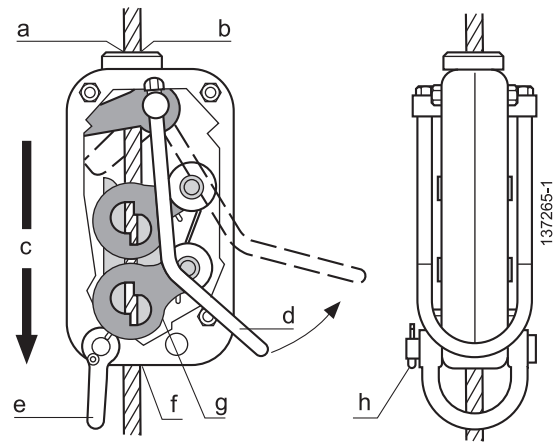

Fig. 1
The BLOCSTOP™ type BS fall arrest device (fig. 1) is basically formed by a system of self-clamping jaws (item g, fig. 1) mounted in a zinc-plated steel casing.
The unit is connected by its shackle (item e, fig.1) to an anchor point (item 8, fig. 21) or to the suspended platform (item 9, fig. 22) with a sling.
So long as the wire rope (item b, fig.1) moves in the pulling direction indicated by the arrow (item c, fig.1), the jaws automatically open and allow the wire rope to slide. **Conversely**, as soon as the wire rope in the fall arrest device moves in the opposite direction, with respect to the pulling direction (item c, fig.1), the jaws immediately close on the wire rope and, as with the TIRFOR® principle, clamp the wire rope with a force proportional to the load.
To allow controlled descent of the load, the BLOCSTOP™ fall arrest device can be unlocked by pulling on the stirrup (item d, fig. 1) in the direction of the arrow. This operation can only be performed provided there is no load on the fall arrest device. A return spring keeps the stirrup in place against the fall arrest device (shown by bold dotted line in fig. 1).
The shackle (with its cotter pin) (item e, fig. 1) is mounted on the fall arrest device optionally.